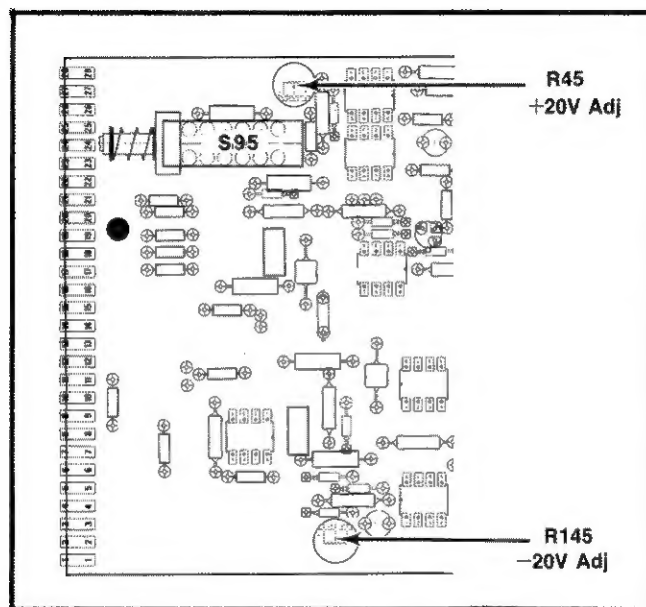

Fig. 3-1. Location of +20 V and –20 V adjustment.
b. Install the PS 503A into the far right (high power) power module compartment, or if appropriate, connect the PS 503A to the power module by means of the flexible plug-in extender. If a flexible extender is used, current limiting switch S95 must be engaged in the maximum current (HI) position. See Fig. 3-1 for switch location.
e. Adjust—R45, +20 Adj, for a meter reading of +20.2 volts, ± 0.1 volt. See Fig. 3-1 for adjustment location.
h. Adjust—R145, –20 Adj, for a meter reading of –20.2 volts, ± 0.1 volt. See Fig. 3-1 for adjustment location.